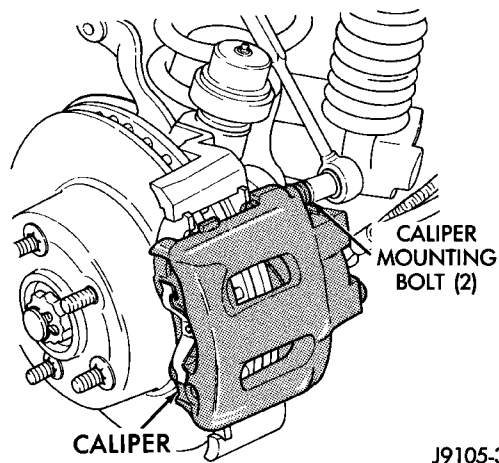

Fig. 28 Caliper Mounting Bolts
(6) Remove caliper mounting bolts (Fig. 28).